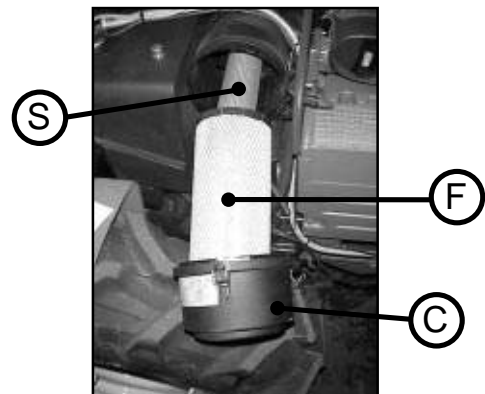

Fig.39
Filter cartridge F (Fig. 39)
- 3.- Clean the cartridge F as follows: blow air slightly at a safety distance (Fig. 39)